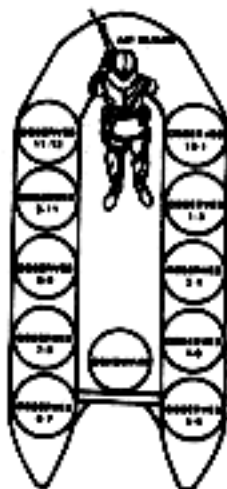

Figure 9-1. Boat positions.
a. Assign each individual a specific boat position (see figure 9-1).